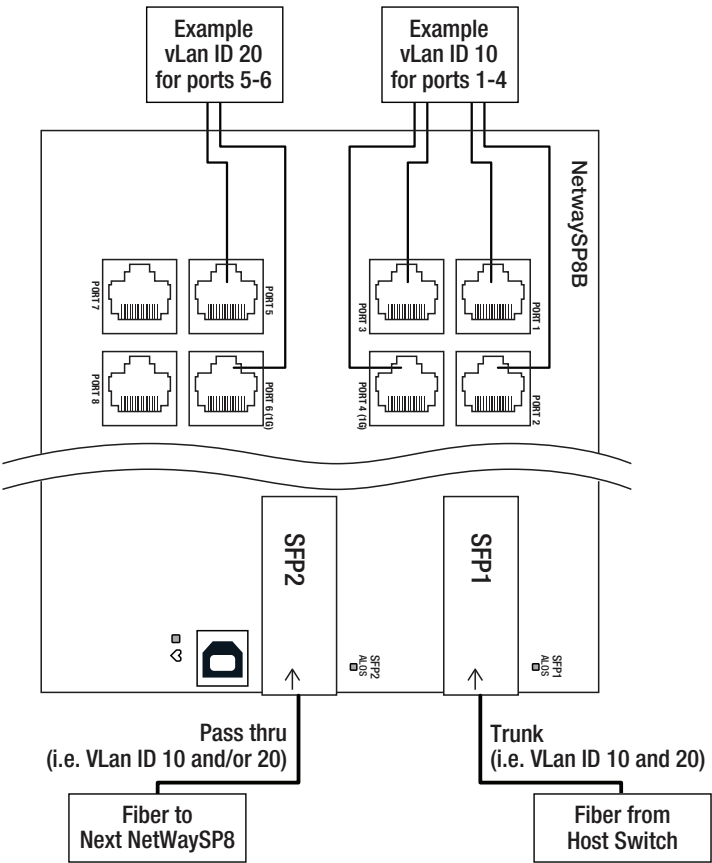

Fig. 5
2. Secure cabinet to earth ground. Connect AC power from overcurrent protective device circuit breaker (20A @ 115VAC, 60Hz, 16A @ 230VAC, 50/60Hz) to the terminals marked [L, N] on power supply board (*Fig. 5, pg. 8*). Use 14AWG or larger for all power connections (Battery, DC output, AC input). Connect ground lug (⊕) to earth or green branch wire (12AWG min.).
Note: For NetWaySP8WPN use external 48-56V UL Listed ITE power supply, carefully observing correct polarity (*Fig. 5, pg. 8*). Keep power-limited wiring separate from non power-limited wiring by utilizing separate knockouts/inlets. Minimum 0.25" spacing must be provided.
4. Connect structured cables from port marked [Port 1] to [Port 8] on NetWaySP8B to PoE-compliant cameras/ edge devices (Fig. 5, pg. 8).
5. Insert SFP module into port(s) marked [SFP], then connect cable to the SFP module on NetWaySP8B to the corresponding input of an SFP switch (Fig. 5, pg. 8).
6. **Battery Backup** (if desired): Connect four (4) 12VDC batteries wired in series to terminals marked [– BAT +] (Fig. 5, pg. 8), carefully observing polarity.